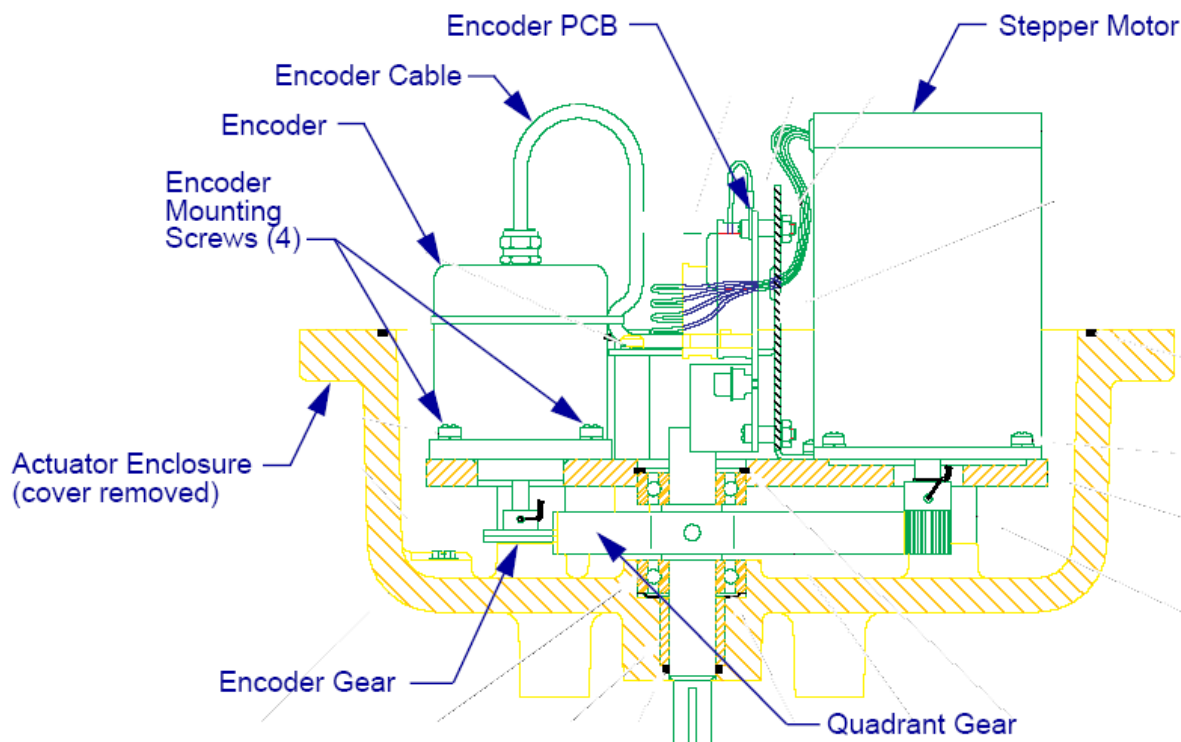

Fig 27 Encoder Removal
- 4 Carefully remove the four encoder mounting screws at the base of the encoder (see Fig 27 on page 72). These screws may be locked in place with a bonding agent and difficult to remove.